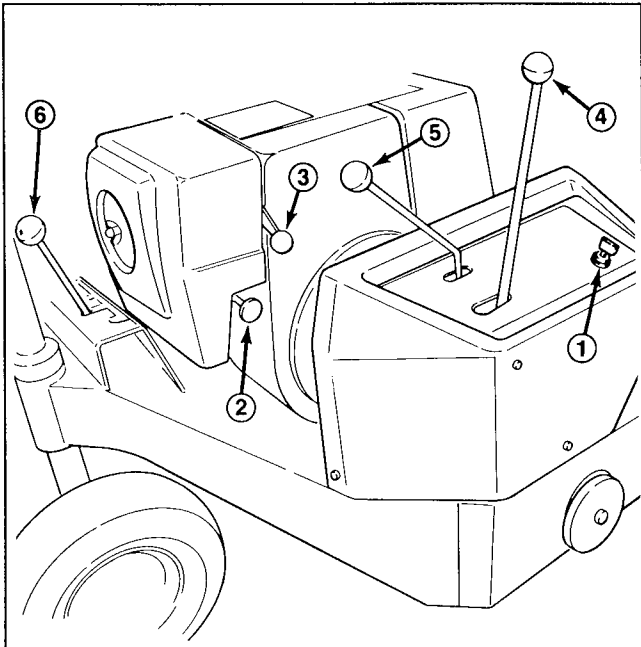

Figure 14
**Ignition Switch** (Fig. 14) — The ignition switch, which is used to start and stop the engine, has three positions: OFF, ON and START. Rotate key clockwise — START position — to engage starter motor. Release key when engine starts. The key will automatically return to the ON position. To shut engine off, rotate key counterclockwise to the OFF position.
**Choke** (Fig. 14) — To start a cold engine, close carburetor choke by pulling choke control outward to the ON position. After engine starts, regulate choke to keep engine running smoothly. As soon as possible, open the choke by pushing it inward to the OFF position. A warm engine requires little or no choking.
**Throttle** (Fig. 14) — Throttle is used to operate engine at various speeds. Moving throttle upward increases engine speed — FAST; rearward decreases engine speed — SLOW. The throttle controls the speed of the coring head and, in conjunction with traction clutch, controls ground speed of the machine.
**Traction Drive Lever** (Fig. 14) — Shift to desired gear and move traction drive lever to engage position to move forward or reverse.
**Coring Head Lever** (Fig. 14) — Raises and lowers coring head.
**Gear Shift Lever** (Fig. 14) — Transmission has two forward speeds, neutral and reverse, and has an inline shaft pattern. Do not shift while unit is moving, as transmission damage may occur.